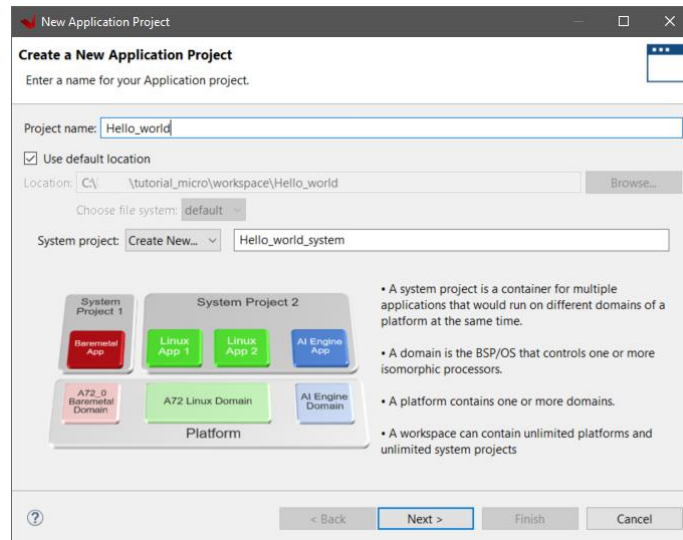

Figure 26
3. Type **Hello_world** in the **Project Name** field (Figure 26)